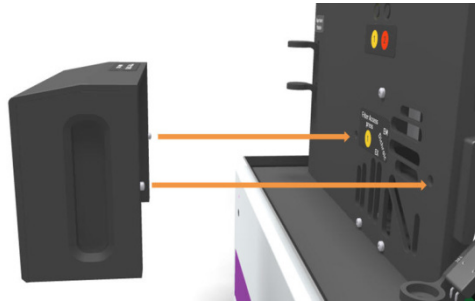
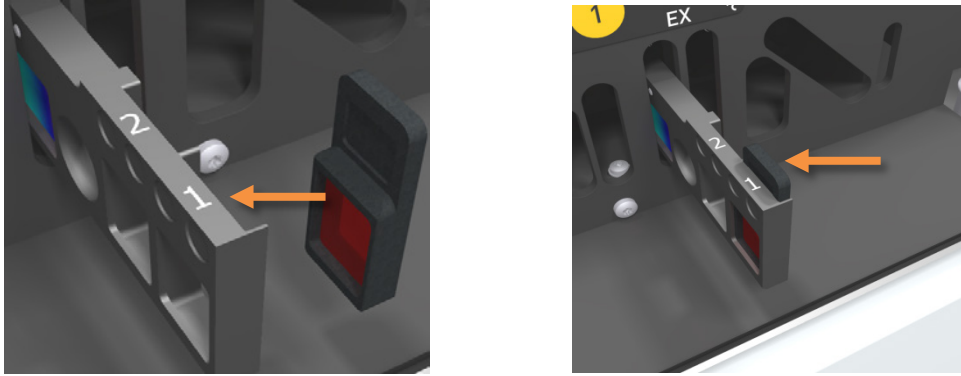

Figure 3: CLARIOstar magnetized Filter Cover
Figure 13: Correct Placement of Filters
The CLARIOstar has eleven positions for filters accessible via five filter slots. Once the magnetic filter cover (see Figure 3) has been removed, filters can be installed using the filter access button (yellow button 1) to access the filter slides and move them out of the instrument and then back in. To move filter slides back into the instrument, press button 2 (labeled red).
To access filter slides, first remove the magnetic filter cover (Figure 3) to access the filter slots and slides and then push filter access button (1). Each filter slide can be accessed by repeatedly pushing filter access button (1) so that each respective filter slide emerges in succession. Place the magnetic filter into the desired filter slide and position. Filters snap magnetically into filter slides. See Figure 13 for correct placement of filters into slide.
Please make sure that the filters are fitted correctly into the filter slides. Filter slides and filters are magnetized, and filters snap in to filter slide as shown in Figure 13.